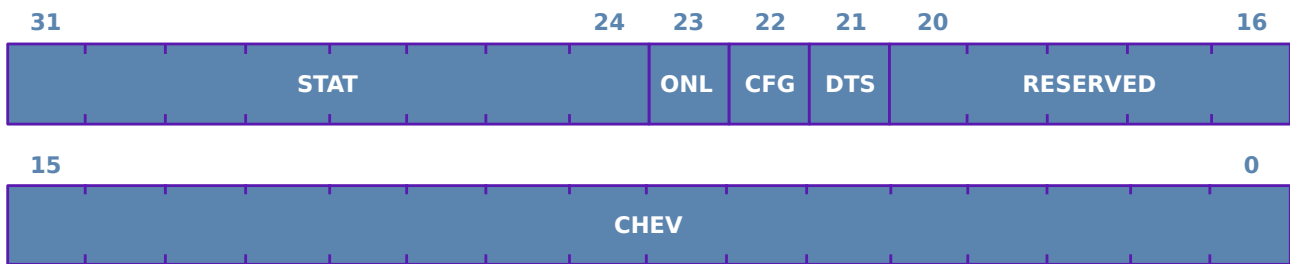

Figure 16: System status flags
- Format: System status, as shown on figure 16. The meaning of each field is as follows:
- MW\_ST\_INIT (0): System is starting.
- MW\_ST\_IDLE (1): System is not connected to the AP and waiting for commands.
- MW\_ST\_AP\_JOIN (2): System is joining an Access Point.
- MW\_ST\_SCAN (3): System is performing an AP scan.
- MW\_ST\_READY (4): System is connected to the AP and ready to send/receive data.
- MW\_ST\_TRANSPARENT (5): System is on transparent mode. This state is not likely going to be reported with this command, because while on transparent mode, command interpreter is disabled.